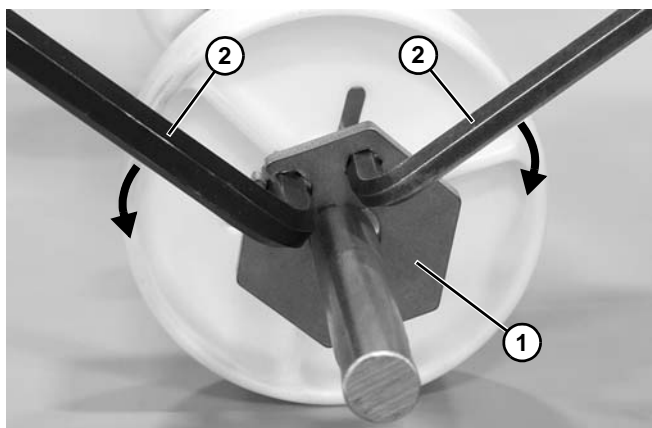

Figure 140
- c. To lock the retainer plate (Figure 140, item 1) in place, move the wrenches (Figure 140, item 2) away from each other.